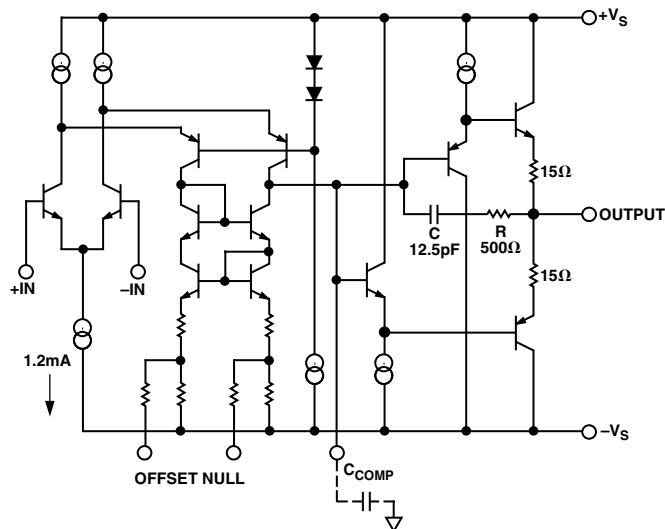

Figure 5. Simplified Schematic
The AD829 is fabricated on Analog Devices' proprietary complementary bipolar (CB) process, which provides PNP and NPN transistors with similar f_T s of 600 MHz. As shown in Figure 5, the AD829 input stage consists of an NPN differential pair in which each transistor operates at 600 μ A collector current. This gives the input devices a high transconductance, which in turn gives the AD829 a low noise figure of 2 nV/ $\sqrt{\text{Hz}}$ @ 1 kHz.
An RC network in the output stage (Figure 5) completely removes the effect of capacitive loading when the amplifier is compensated for closed-loop gains of 10 or higher. At low frequencies, and with low capacitive loads, the gain from the compensation node to the output is very close to unity. In this case, C is bootstrapped and does not contribute to the compensation capacitance of the device. As the capacitive load is increased, a pole is formed with the output impedance of the output stage this reduces the gain, and subsequently, C is incompletely bootstrapped. Therefore, some fraction of C contributes to the compensation capacitance, and the unity gain bandwidth falls. As the load capacitance is further increased, the bandwidth continues to fall and the amplifier remains stable.